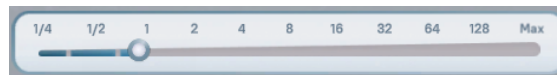

Figure 23 – Speed Adjustment Scale
The **Simulation Speed Sontrol** slider (2) allows you to adjust the comfortable speed of process simulations. When the application starts, the speed value is set to 1, which corresponds to real-time. To change the speed of the simulation processes, press and drag the slider left or right along the speed scale to the desired value (Figure 23). Release the button — the speed scale will hide, and the set speed will be displayed on the slider.